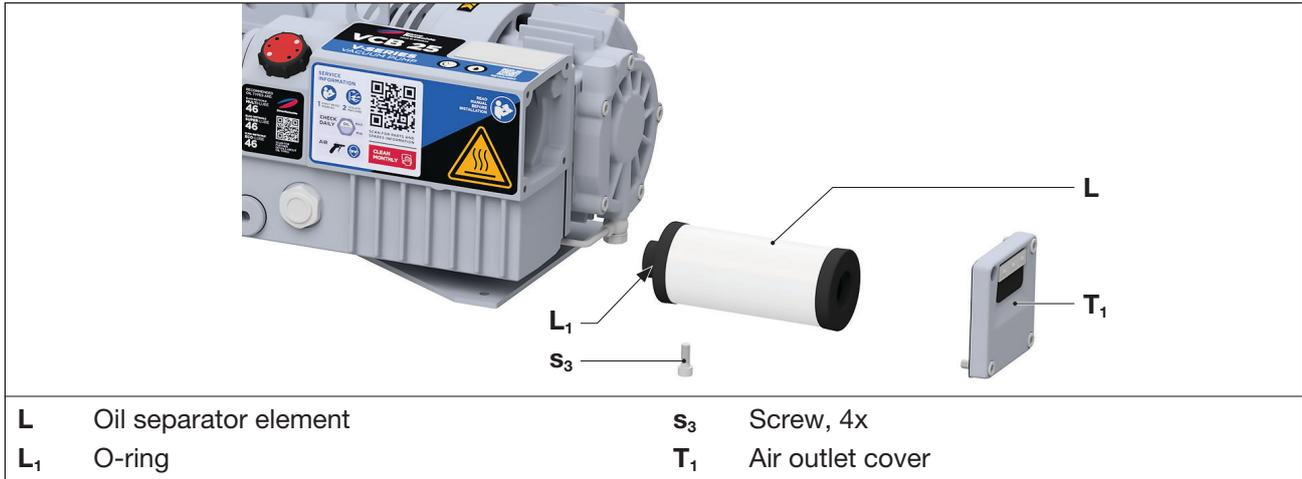

Fig. 7 Oil separator element
- Undo the screws (Fig. 7/s3) on the air outlet cover (Fig. 7/T1) and remove the cover (Fig. 7/T1) with the gasket.
- Undo the oil separator element (Fig. 7/L) with a hexagonal wrench (size 10) and replace it.
- Lightly oil the O-ring (Fig. 7/L1) of the new oil separator element (Fig. 7/L) and insert the oil separator element into the oil separator housing.
- Reassemble the air outlet cover (Fig. 7/T1) with the gasket and secure it with the four screws (Fig. 7/s3). Tightening torque: 10 Nm